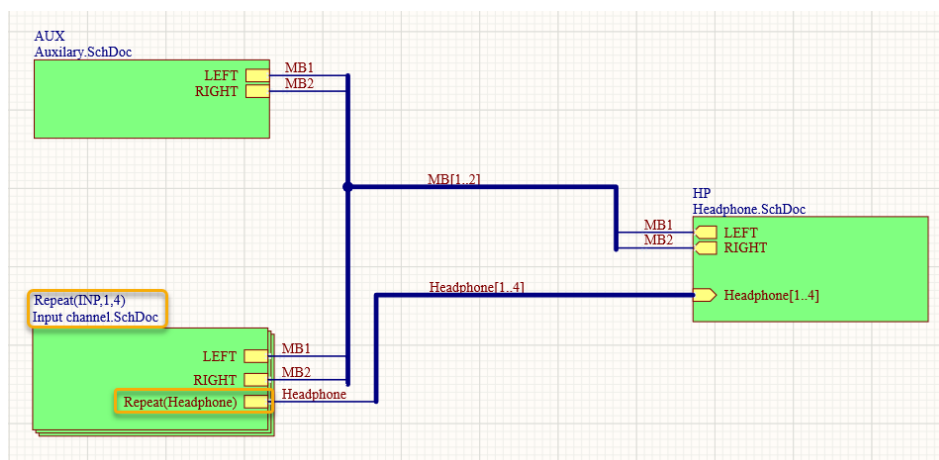

Figure 4. Modifying the input channel block to a 4-channel mixer
11. By replacing the `INP` designator of the input channel sheet symbol with `Repeat (INP, 1, 4)`, the compiler will know to create a total of 4 copies of the input channel schematic and label them `INP1`, `INP2`, `INP3` and `INP4`. Make this change to your schematic as shown in Figure 4.
12. By replacing the Sheet-Entry `Headphone` of the input channel sheet symbol to `Repeat (Headphone)`, the compiler will know to create a connection from bus signal `Headphone1` to Channel 1, `Headphone2` to Channel 2, and so forth, as shown in Figure 4.